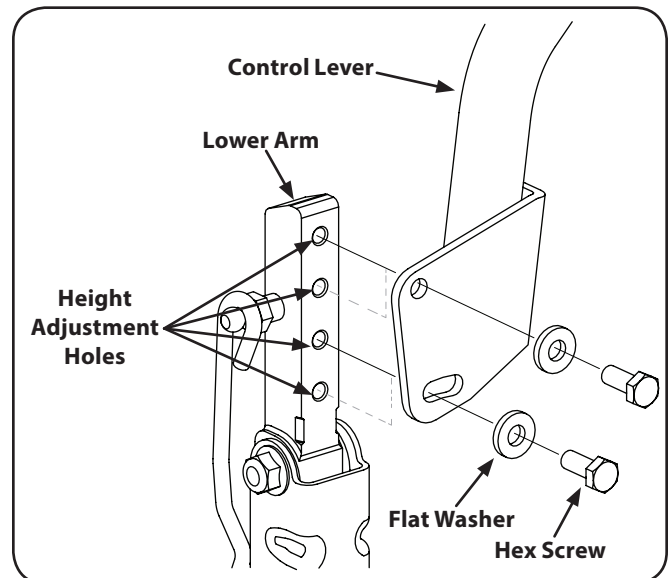

Figure 6-4
2. While supporting the control lever to keep it from falling, remove the hex screw and flat washer from the bottom of the control lever and lower arm. Refer to Figure 6-4.
1. If not already loose, loosen the hex screw and rotate the control lever either forward or rearward to the desired position. See Figure 6-4.